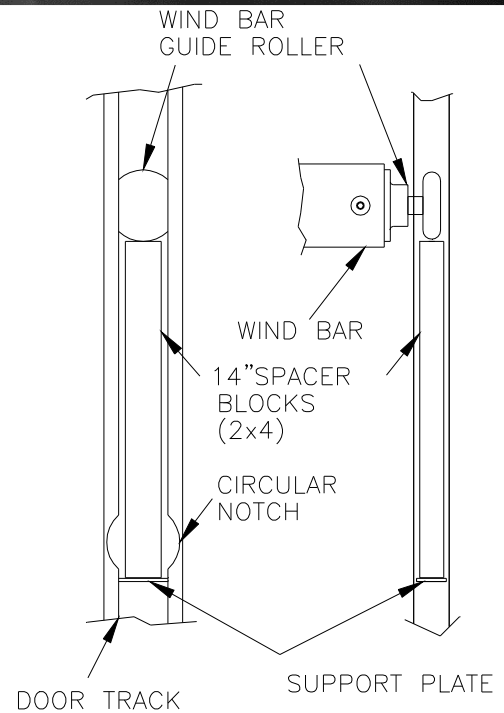

FIG. 13A
- Slide Wind Bar Guide Roller through circular notch in Door Track on one side of door (Figure 13a).